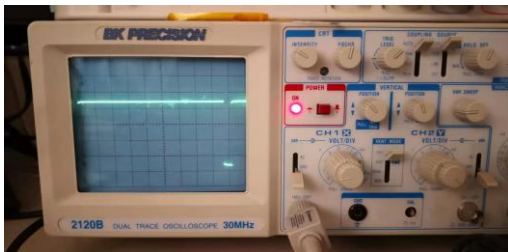
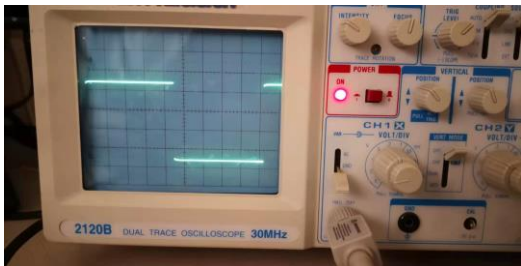
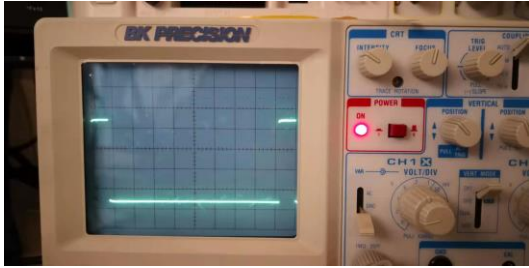

Fig. 1 Delay Angle = 180 (170)
Fig. 2 Delay Angle = 90
Fig. 3 Delay Angle = 0 (10)
6. Place scope probe to TP3 of FC4 to measure the delay angle moving from 180 (170) degree to 0 (10) degree with Pot adjusted from low to high shown in the Fig. 1, Fig. 2 and Fig. 3.